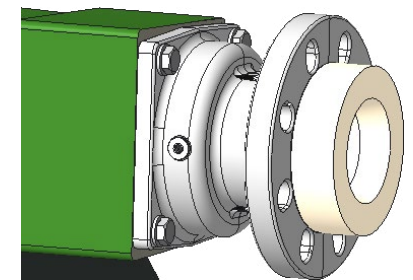

Figure 15. - Assembled with insert
3. Remove the counter flange(s) - see Figure 15.